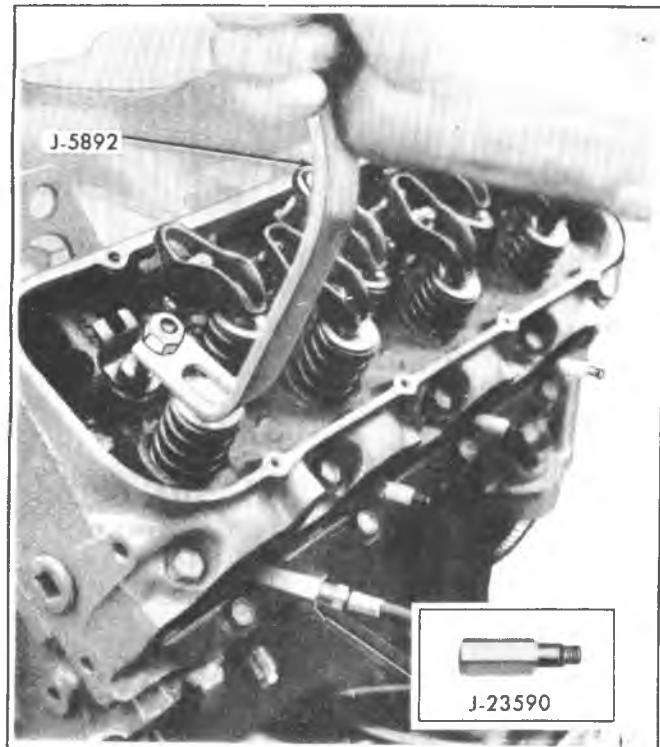

Fig. 6A5-12-Compressing Valve Spring
1. Install new valve stem oil seal (coated with oil) in position over valve guide (fig. 6A5-13). Seal installation instructions are supplied with each service kit. Install seal following procedures outlined on the supplied instruction sheet.